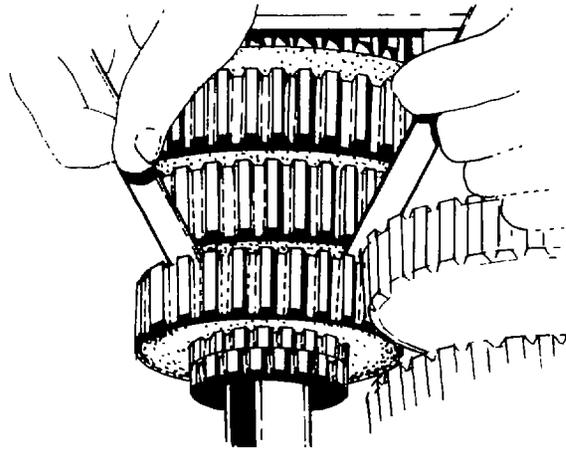

Fig. 209 — Checking End Play
- x. Using two feeler gauges, check the end play between the third gear thrust washer and fourth gear (see fig. 209). End play should be 0.635 – 0.889 mm (0.025 – 0.035 in).